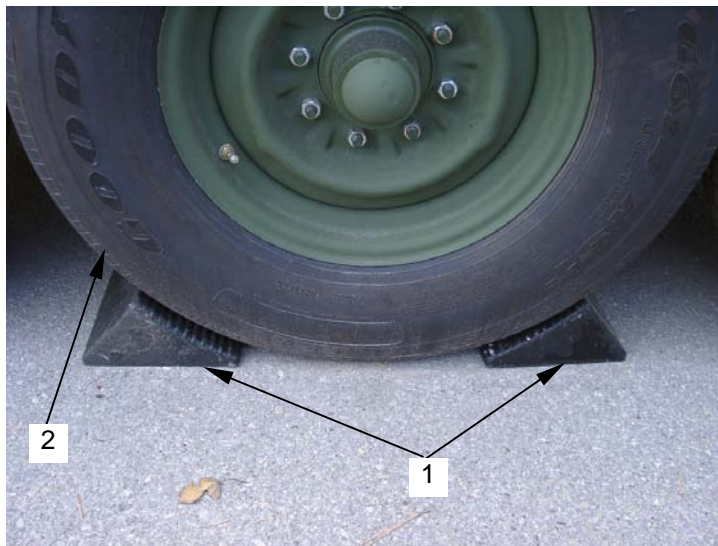

Figure 22. Wheel Chocks
- a. Remove chocks (**figure 22, item 1**) from equipment tray and put in place on a tire. (**figure 22, item 2**).